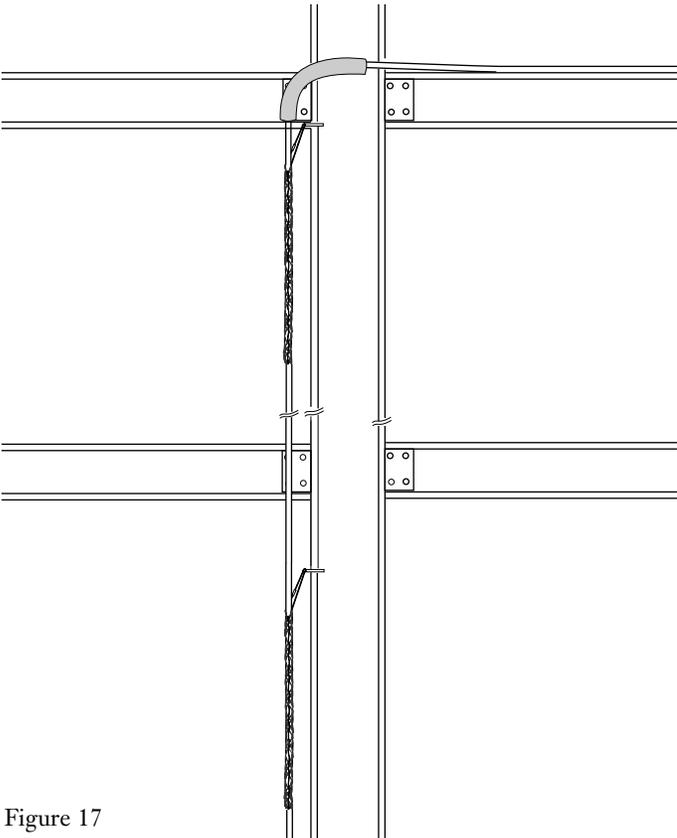

Figure 17
7.26 Use the following guidelines when installing cable in vertical runs (Figure 17):